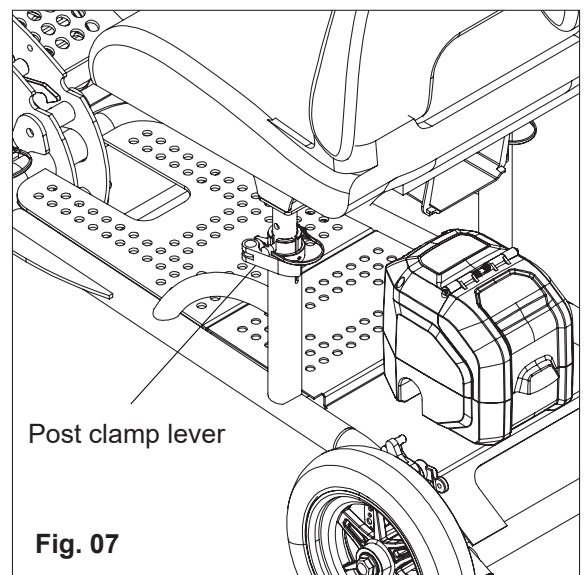

Fig. 07
- 2) Close level of post clamp. If necessary, you can adjust the screw in post clamp to tighten more securely (Fig.07).